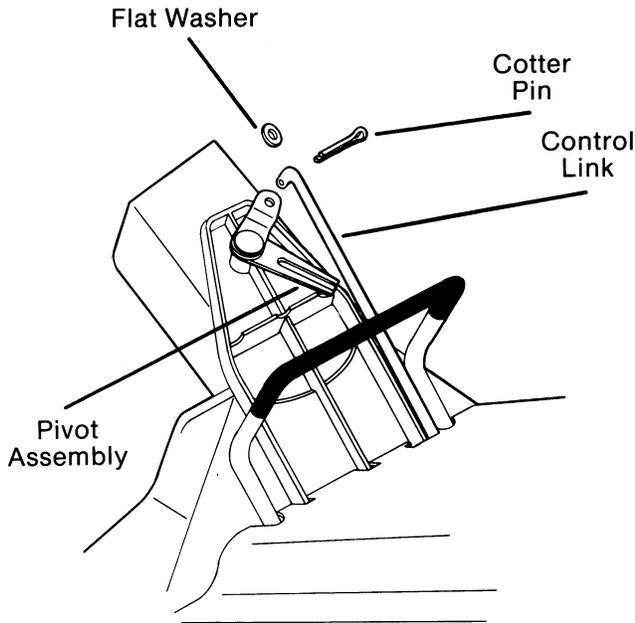

FIG. 24
- B. Remove cotter pin and flat washer from top end of control link connected at the vane pivot assembly. (Fig. 24) Pull control link out of hole.